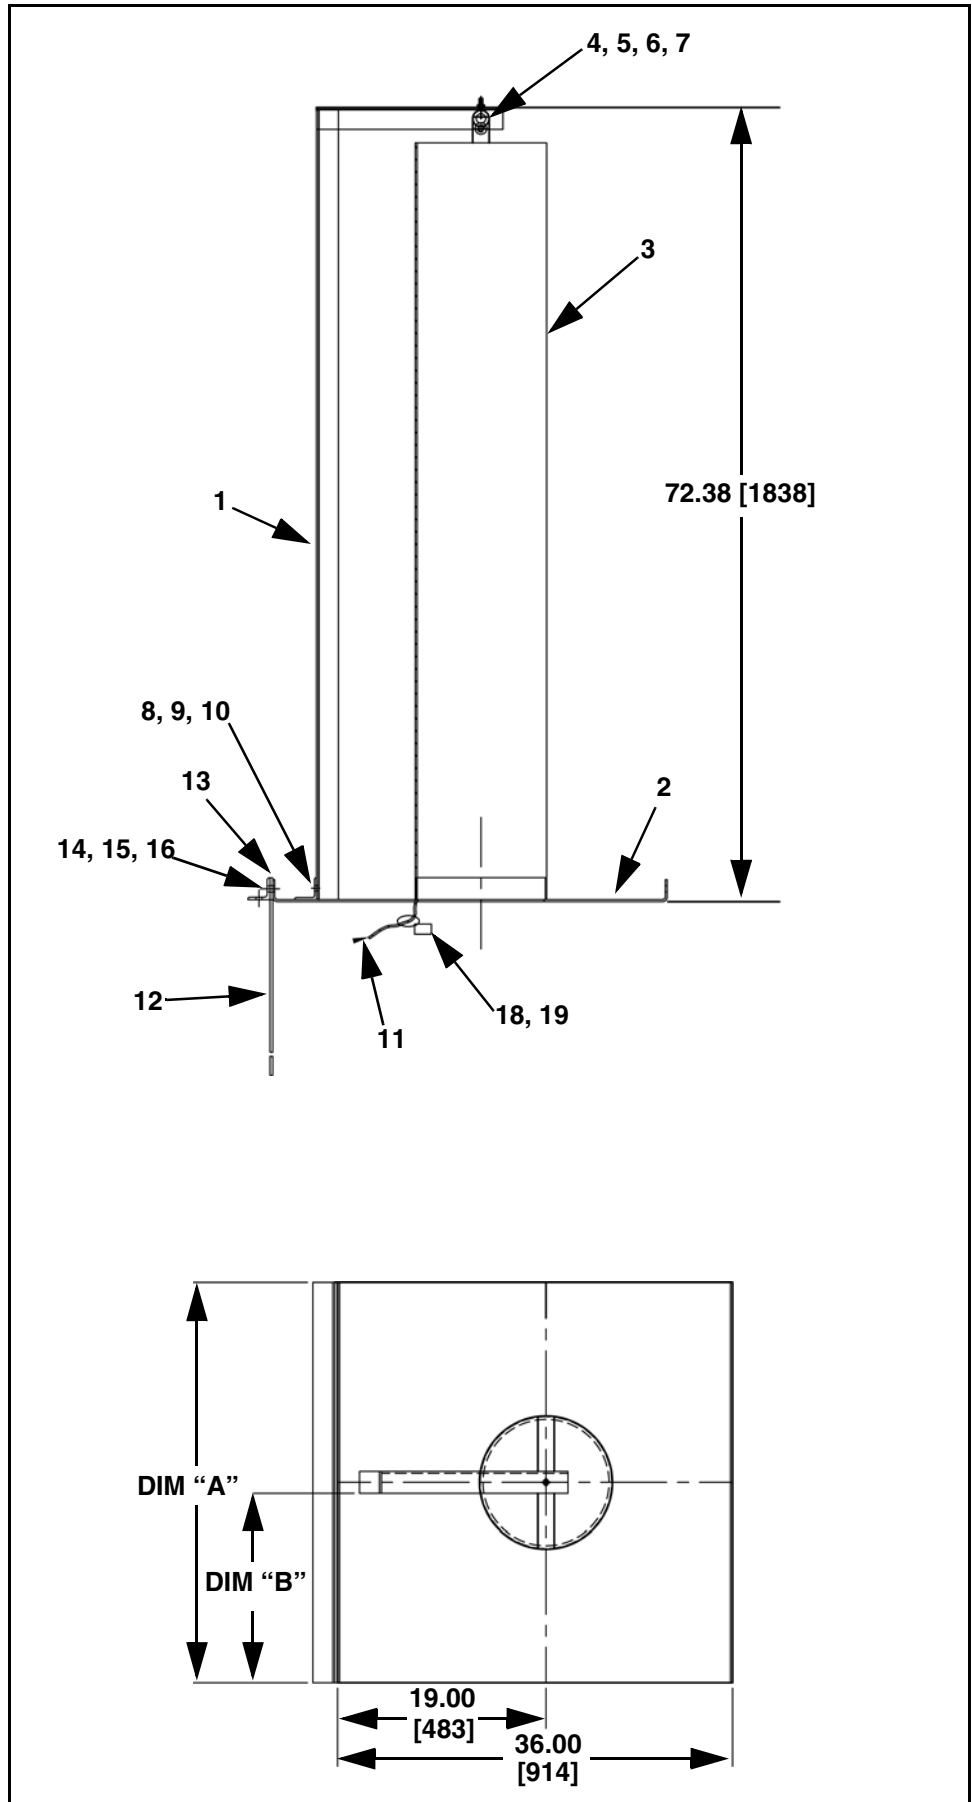

Figure 1. Martin® Dust Bag Assembly  $\phi$ 12.00 x 72.00, 34839-XX (sheet 1 of 2)
**Martin® Dust Bag Assembly ø12.00 x 72.00:** P/N 34839-XX. See Figure 1.